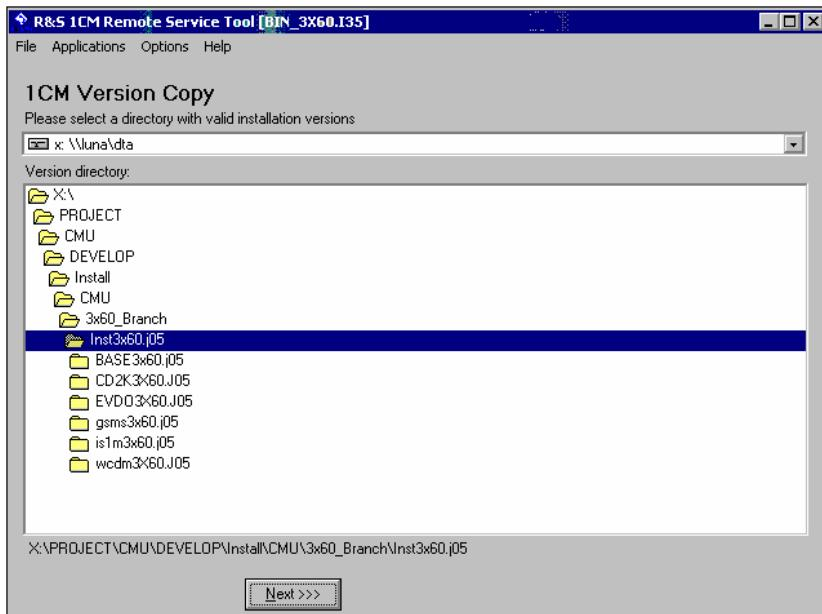

Fig. 1-9 Remote Service Tool main screen (example)
**Note:** When copying an installation version to a CF / PCMCIA card or floppy, ensure that all folders containing a base system version or network option (the lowest-level folders in Fig. 1-9 below) are in the root directory. Otherwise the CMU will not be able to detect the firmware and start the installation. If a Versions.new text file (see section File Versions.new on p. 1.28 ff.) is used, it must also be in the root directory of the external storage medium.